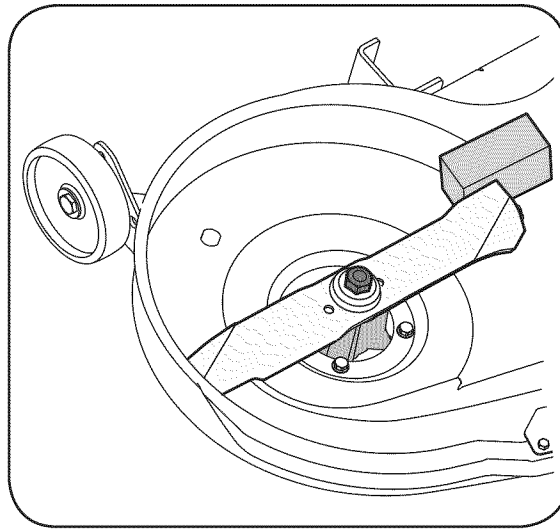

Figure 24
2. Place a block of wood between the center deck housing baffle and the cutting blade to act as a stabilizer. See Figure 24.
3. Use a 15/16" wrench to remove the hex flange nut that secures the blade to the spindle assembly. See Figure 24.